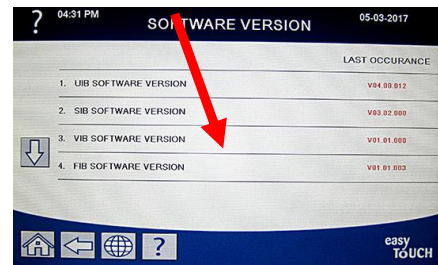

Figure 32
6. Press the down arrow button **TWO** (2) times (see Figure 32).
9. Press the down arrow button (see Figure 32).